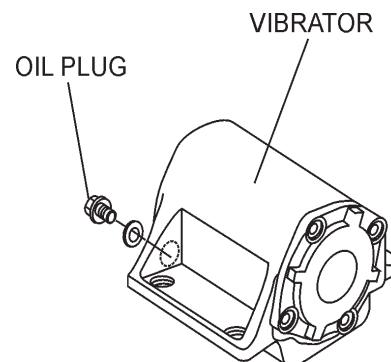

**Figure 9. V-Belt Tension**
2. The V-belt tension is proper if the V-belt bends 10 to 15 mm (Figure 9) when depressed with finger at midway between the clutch and vibration pulley shafts.